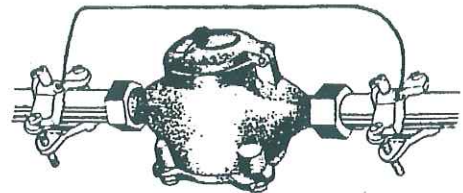

Figure A10
4. Grounded cold water pipe must have metal continuity to electrical ground and register no more than 25 ohms resistance. It must not be interrupted by plastic, rubber, or other electrical insulating connectors such as hoses, fittings, washers or gaskets (including water meter or pump). Any electrically insulated connector should be jumped with a length of No. 4 copper wire securely clamped to bare metal at both ends with a U.L. approved ground clamp (Figure A10).